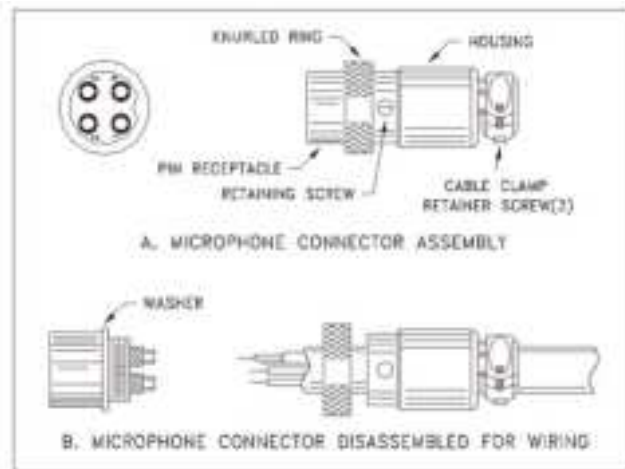

Fig. 2 Microphone plug wiring
4. Feed the microphone cable through the housing, knurled ring and washer as shown Figure 2.